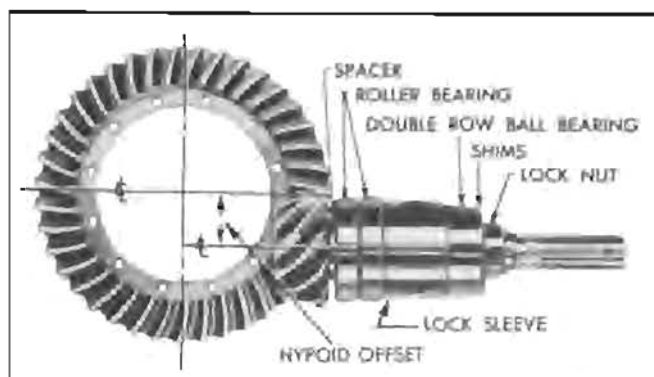

Figure 5-19—Gear Set with Bearings and Lock Sleeve
1. Install parts on pinion shaft in the following order: rear bearing spacer, two rear bearings (roller), bearing lock sleeve with thick end toward spline, front bearing (ball) with shielded side toward spline. See figure 5-19. Press front bearing solidly against shoulder on pinion shaft, using a tube of proper size to bear against inner race only. **NOTE:** Bearing may be brinnelled if driven into place.